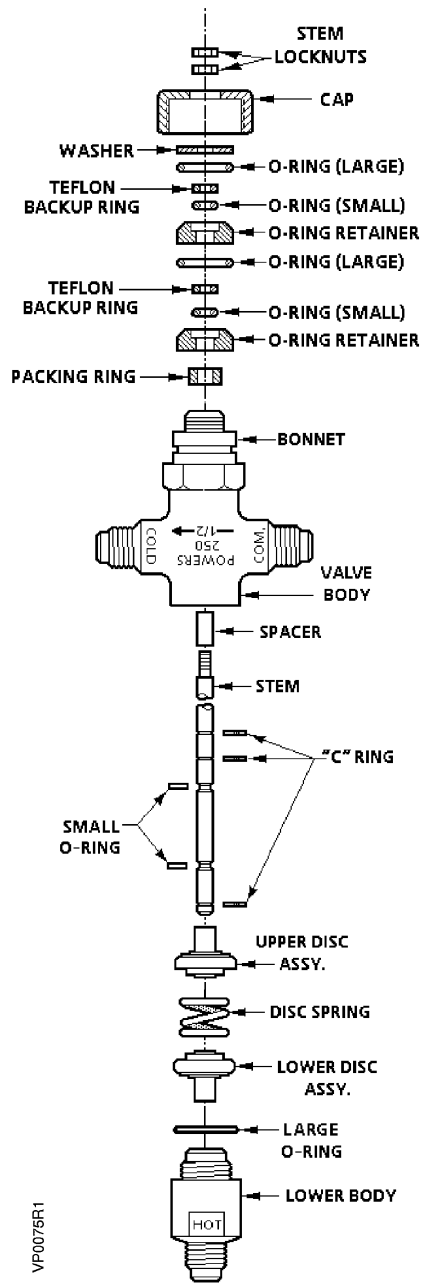

Figure 7. Valve Body Assembly.
5. Disassemble as shown in Figure 7. Upper and lower disc assemblies can now be removed and replaced.
7. Remove the cap from the bonnet. Then remove the washer, O-ring packing, and packing ring as shown in Figure 7.
1. Reassemble stem assembly. See step 4 in the *Disassembly* section and Figure 7. Be careful, it requires considerable force to compress disc spring so "C" ring can be replaced on valve stem. Slide stem assembly into bonnet.